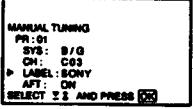

Fig. 13
- Select a letter or number with $\Delta+$ or $\nabla-$ and press OK. Select other characters in the same way. If you want to leave an element blank, select - and press OK. (See Fig. 13.)